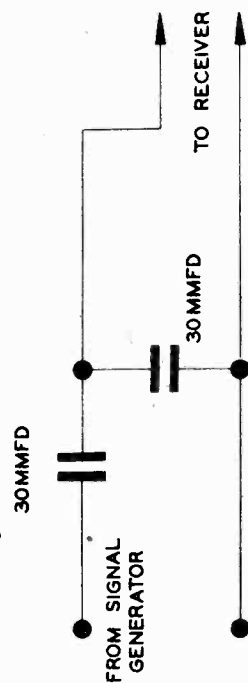

FIG. 9
- 2—Connect the signal generator leads, through the dummy as illustrated in Figure 9, to the antenna receptacle on the receiver.